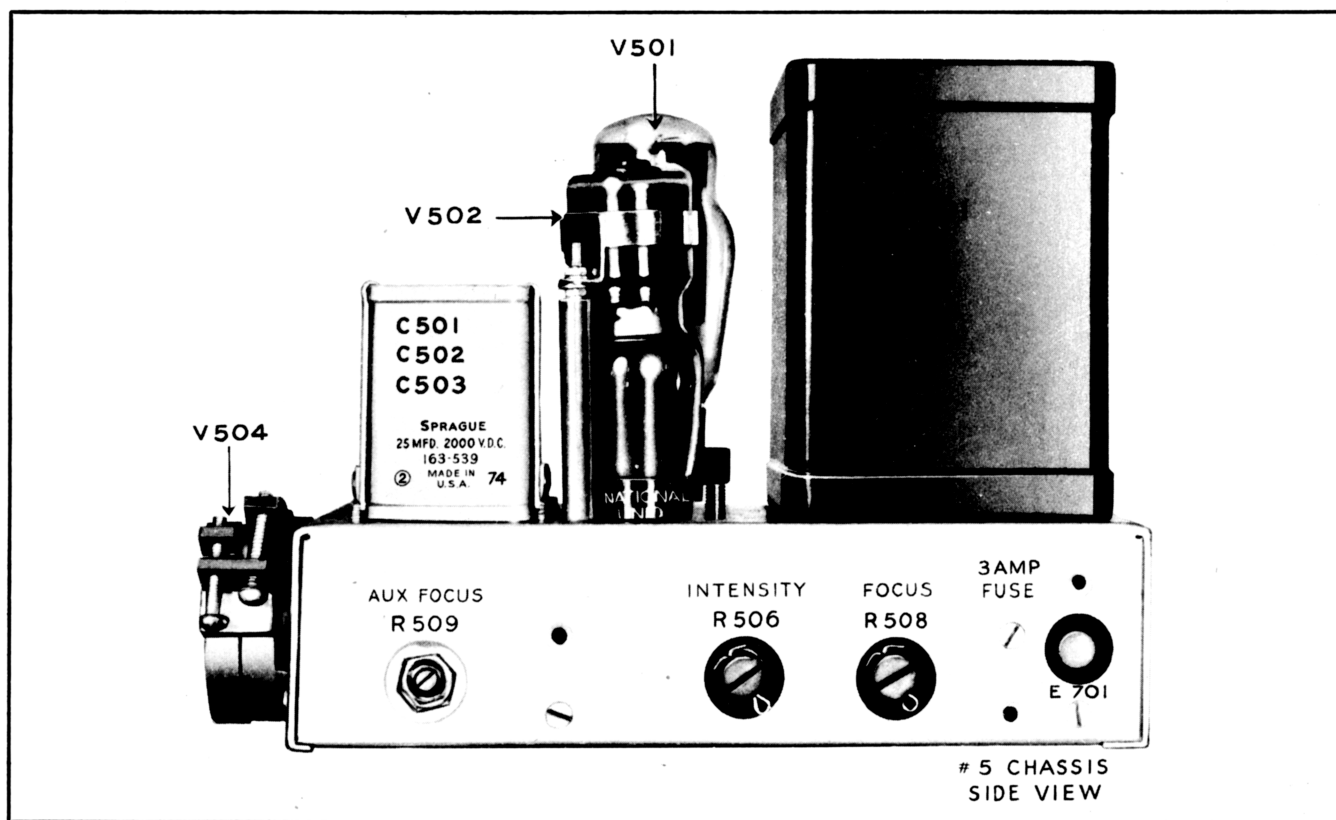

Figure 4-23. Chassis No. 5—Side View
(4) As the cathode ray tube draws little current an RC filter is provided for the high voltage rectifier. The rectifier is a half-wave, which is satisfactory for this purpose. (See figs. 4-23, 4-24.)
(5) The low voltage rectifier is a full-wave rectifier whose output is filtered and regulated in chassis 4.
(6) Two focus controls, R-508 and R-509, are provided. By working these together, a sharp focus may be obtained for all positions of the beam. These focus controls vary the potential applied to the first and second anodes.
(7) The dc. re-inserter, V-503, acts as a diode. The only reason a pentode is used is that several other JAN-6AK5 tubes are used in the circuit and this one may be employed as a spare. The dc. reinserter serves to maintain a constant beam intensity in the cathode ray tube regardless of the amplitude of the blanking voltage and the speed of the sweep. It may be seen that the blanking voltage is a square wave the amplitude of which is adjustable and dependent on sweep speed. Since this voltage is applied directly to the grid of the cathode ray tube, it increases the potential difference between the grid and cathode, and thus increases the beam intensity, in direct proportion to the amplitude of the blanking voltage. When the dc. reinserter is placed in the circuit, the positive portion of the square wave causes V-503 to conduct; electrons flow from cathode to grid and through resistor R-510 back to the cathode. This flow is in such a direction that the grid end of resistor